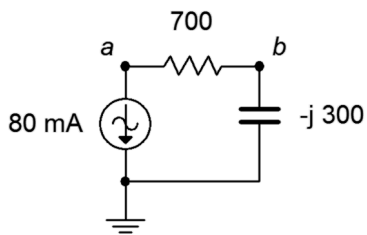

Figure 2.17
31. For the circuit of Figure 2.17, determine the applied voltage and the voltages across each component.